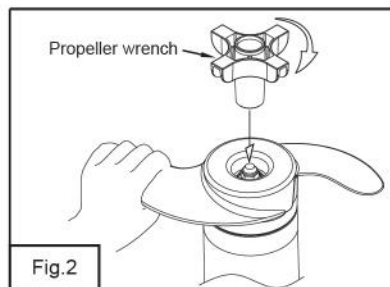

Fig.2
2. Hold the propeller to prevent it from rotating and use the propeller wrench to tighten the propeller nut until firm. Do not over-tighten. (Fig. 2)